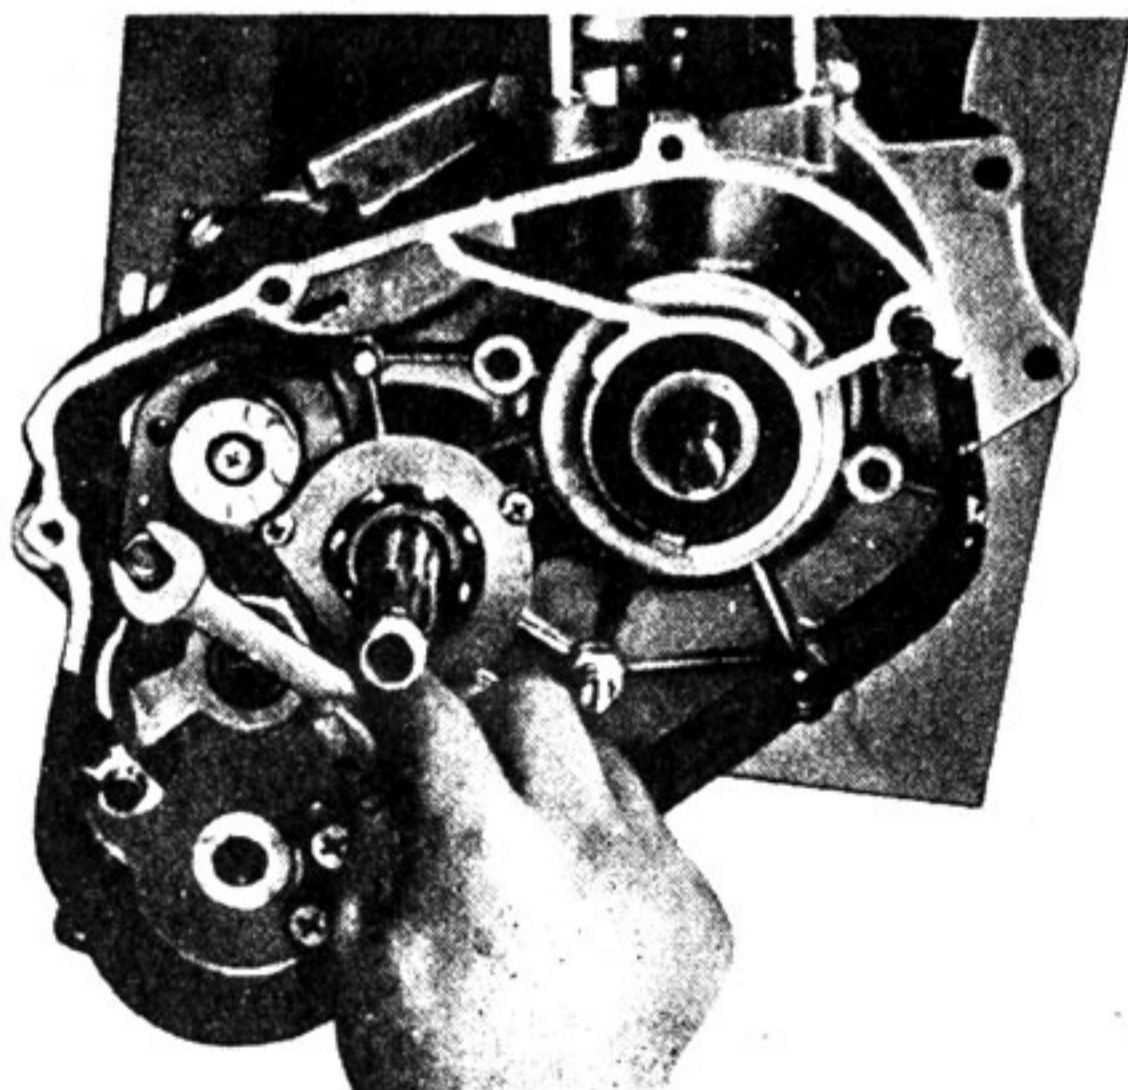

Fig. 4-14-5
- b. Checking the gear Shift Arm Spring (Refer to Fig. 4-14-5).